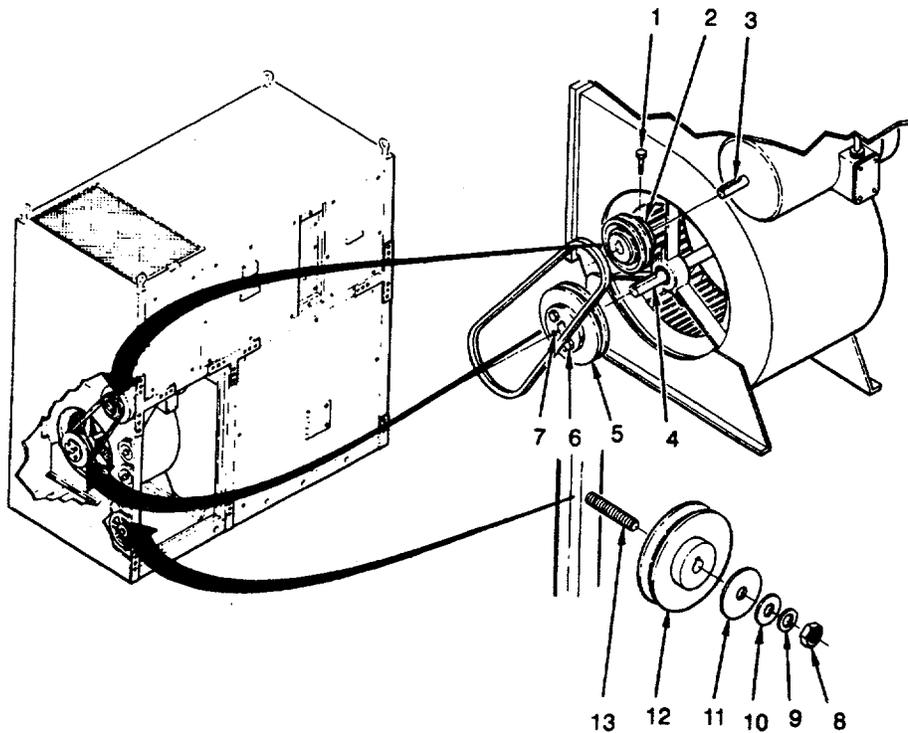

Figure 4-79. Pulleys 50 Hz, Red (Condenser Motor and Circulator Fan)
1. Check condenser fan pulley diameter measures 5 1/4 inches (13.3 cm) and circulator fan pulley diameter measures 6 1/2 inches (16.5 cm). If pulley measurement are not correct, install correct pulley (see Figure 4-79).